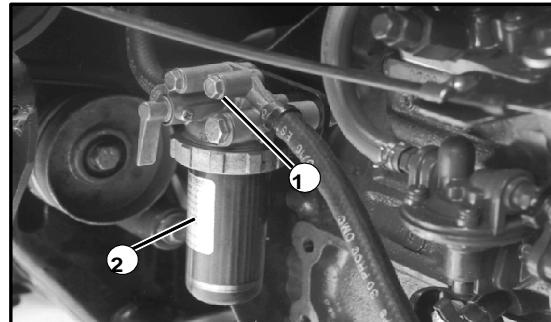

Figure 25
Secondary fuel filter element (See Fig. 25)
2. Open the air vent on top of the fuel filter (See Fig. 25).